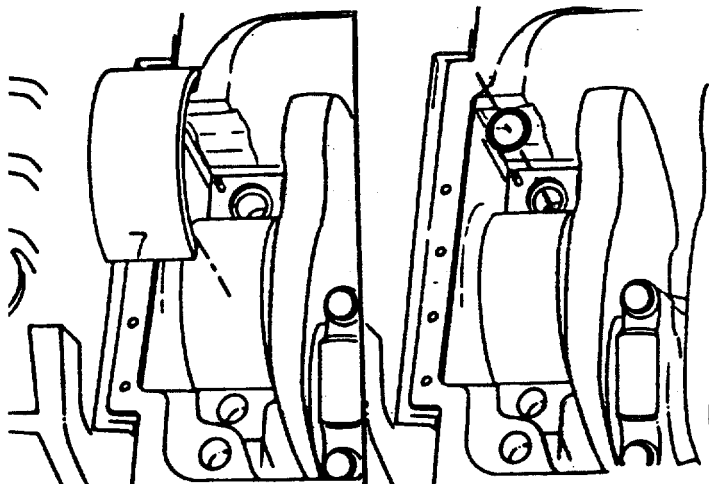

FIGURE 4-44. *Removing Dowel Ring.*
- (4) Remove the dowel ring (FIGURE 4-44) .
- (5) Remove the thrust bearings from the No. 7 cap.
- (6) Mark these bearings from the No. 7 cap.